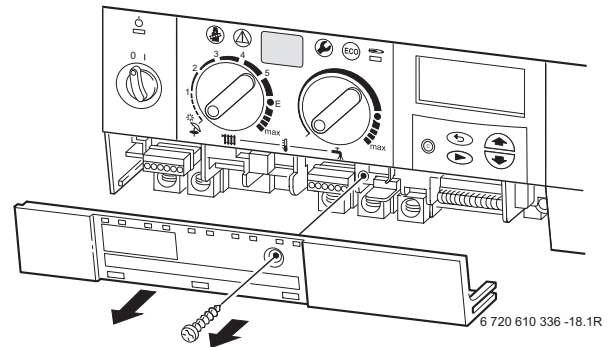

Fig. 26
- ▶ Remove screw and slide terminal cover forwards to remove. Refer to fig. 26.